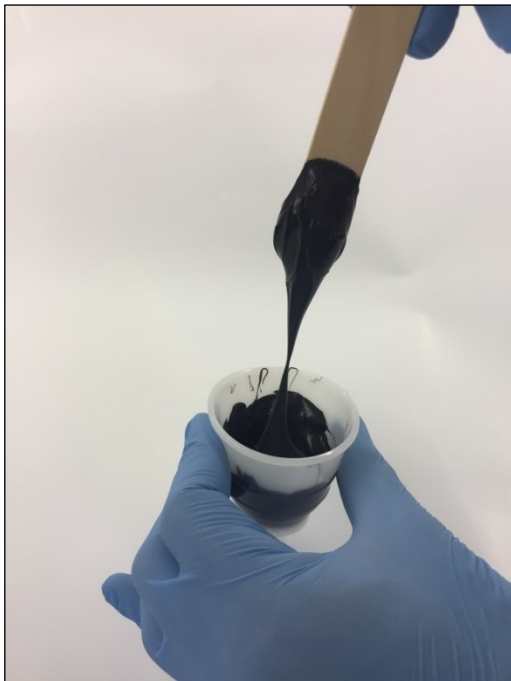

Figure 8: Material shows paste-like behavior:
- The pot life or snap time is the time from extrusion of the silicone adhesive until the point at which it no longer forms long strings (Figure 8) when the spatula is removed, but breaks off in short lengths (Figure 9).